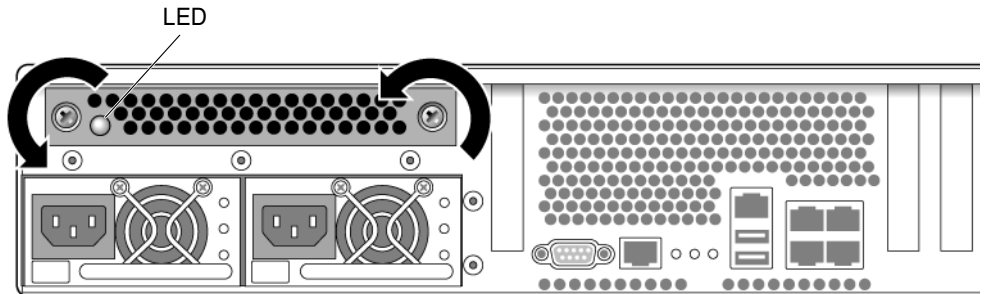

FIGURE 4-4 Removing the Rear Blower
3. Unscrew the two thumbscrews (FIGURE 4-4) that secure the rear blower to the chassis.